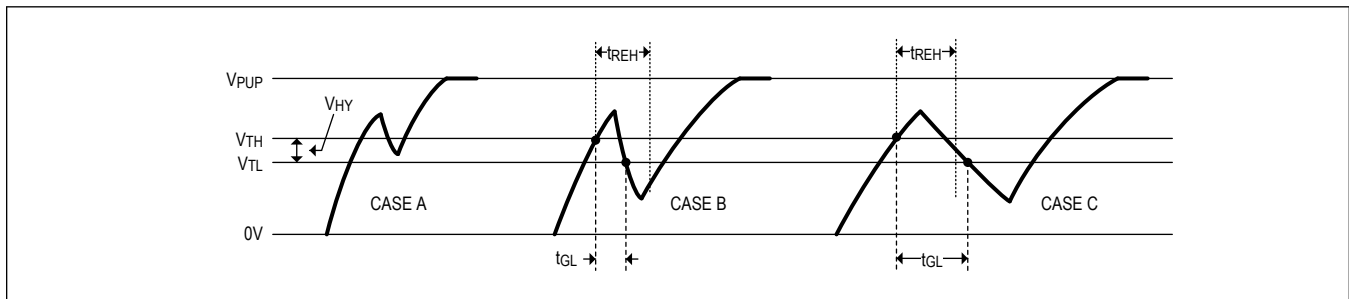

Figure 9. Noise Suppression Scheme
- On the low-to-high transition, if the line rises above  $V_{TH}$  but does not go below  $V_{TL}$ , the glitch is filtered (Figure 9, Case A.)
- The rising-edge hold-off delay (nominally 100ns),  $t_{REH}$ , filters glitches that go below  $V_{TL}$  before  $t_{REH}$  has expired (Figure 9, Case B). Effectively, the device does not see the initial rise, and the  $t_{REH}$  delay resets when the line goes below  $V_{TL}$ .
- If the line goes below  $V_{TL}$  after  $t_{REH}$  has expired, the glitch is not filtered and is taken as the beginning of a new time slot (Figure 9, Case C.)